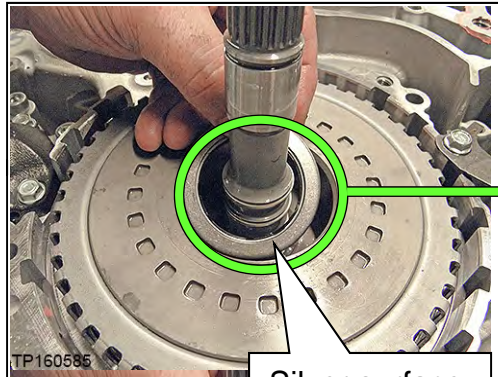
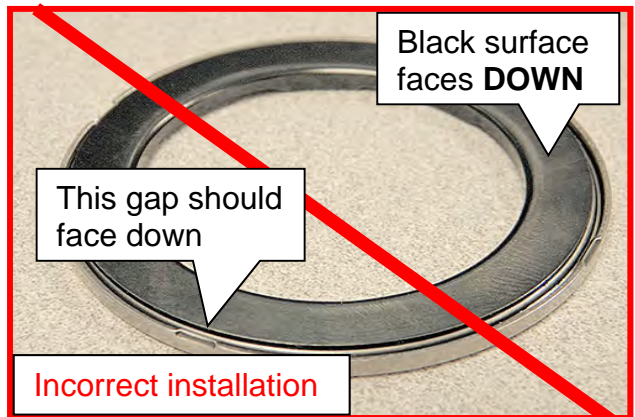

Figure 119
Figure 122
**CAUTION:** The thrust bearing has two sides. See Figure 119 through Figure 122 for the correct orientation.